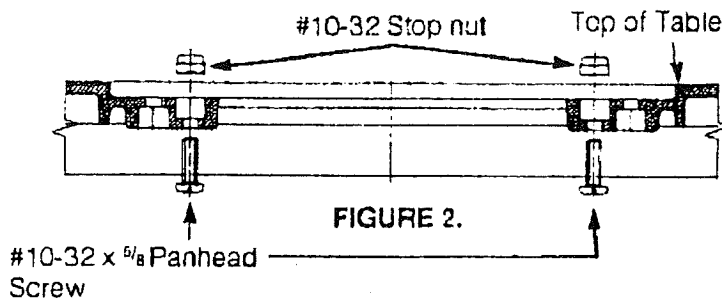

FIGURE 2.
1. Assemble four #10-32 x  $\frac{5}{8}$  panhead screws and four #10-32 stop nuts to table as shown in Figure 2.